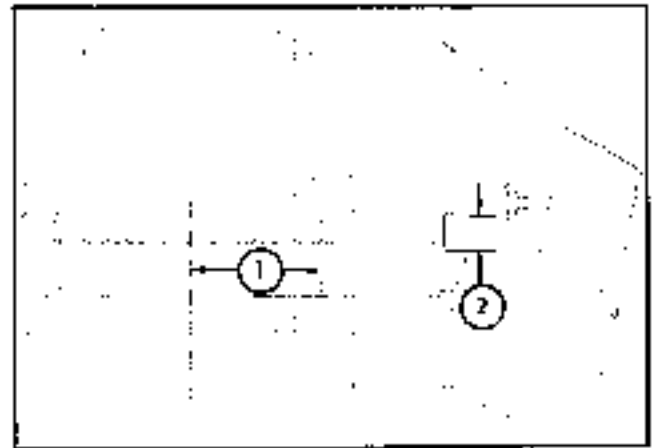

Fig. 159. Rack mounting brackets
a. Weld safety rack brackets to backside of run carriage bar, using dimensions shown in Fig. 159 to locate.